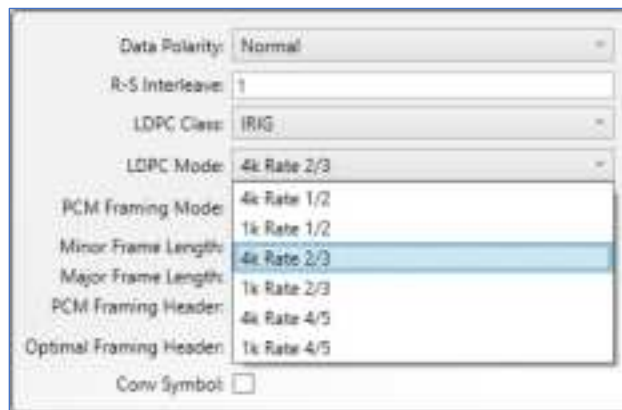

Figure 169: Encoder Hamburger Menu, LDPC Drop Down Menu
- LDPC Mode – Selects an LDPC mode, as shown in Figure 169